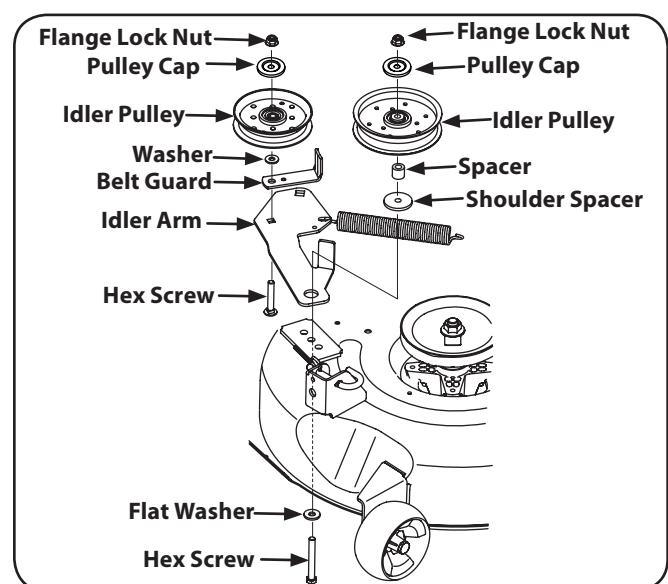

Figure 7-11
2. Remove the hex washer screws securing the belt covers to the deck. See Figure 7-11.
5. Install the new belt around the spindle pulleys as shown and reinstall the belt covers. See Figure 7-11.